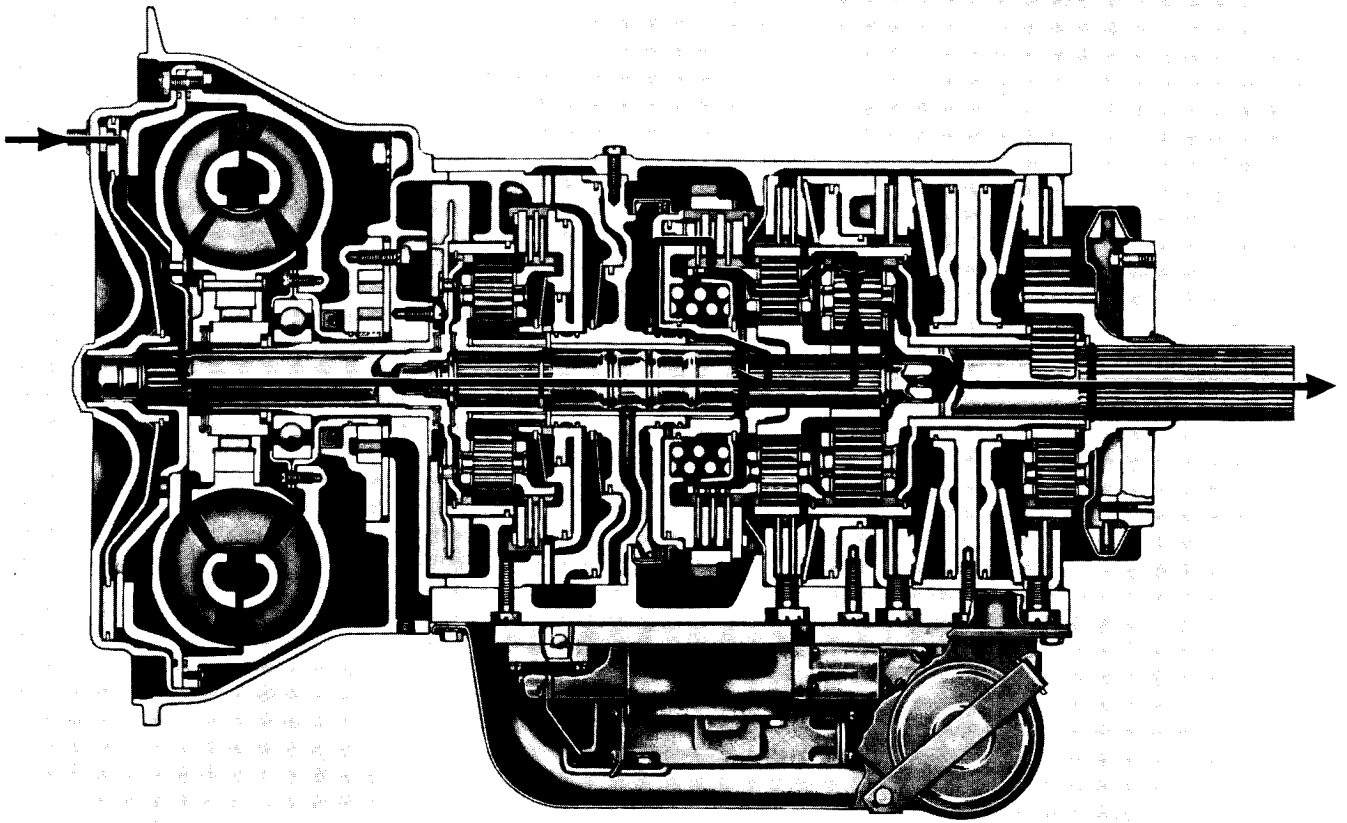

Fig. III-20 Sixth-gear power flow, lockup
e. Sixth Gear (fig. III-20). In sixth gear, the splitter system is in high ratio (1:1) while the high-range system functions as described